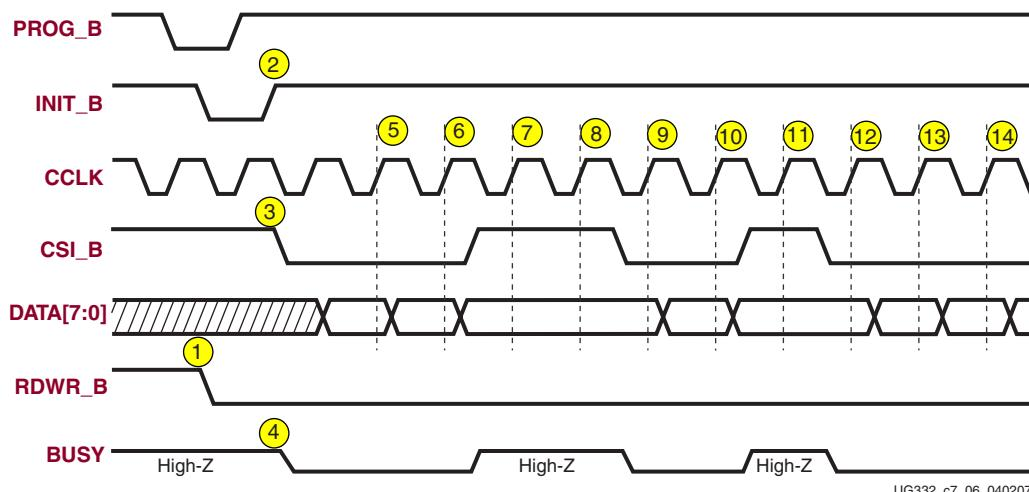

Figure 7-6: SelectMAP Non-Continuous Data Loading with Controlled CSI_B
1. Deassert the **CSI_B** signal with a free-running **CCLK**, shown in Figure 7-6 and described in “Deasserting CSI_B,” page 187.
The following numbered items correspond to the markers provided in Figure 7-6.